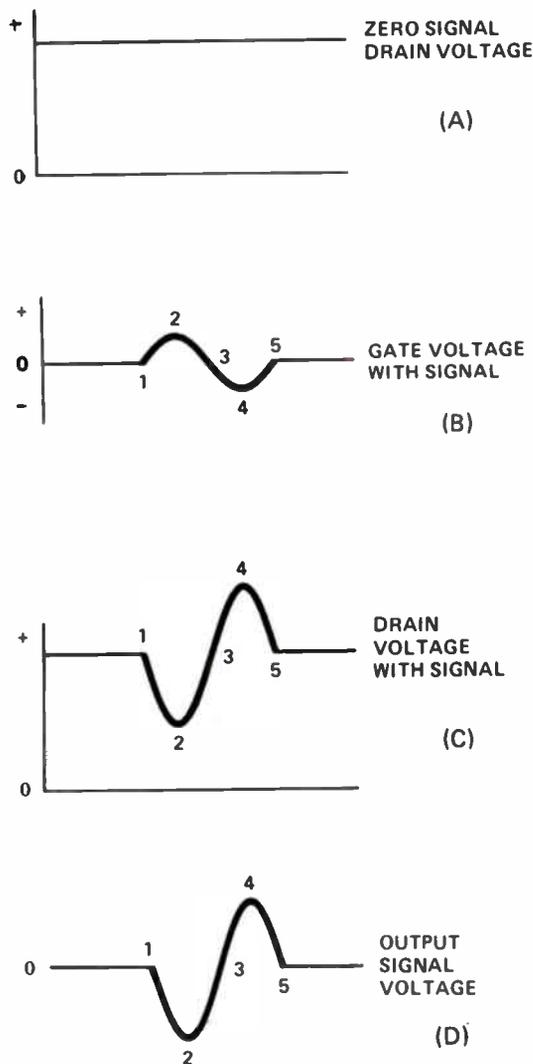
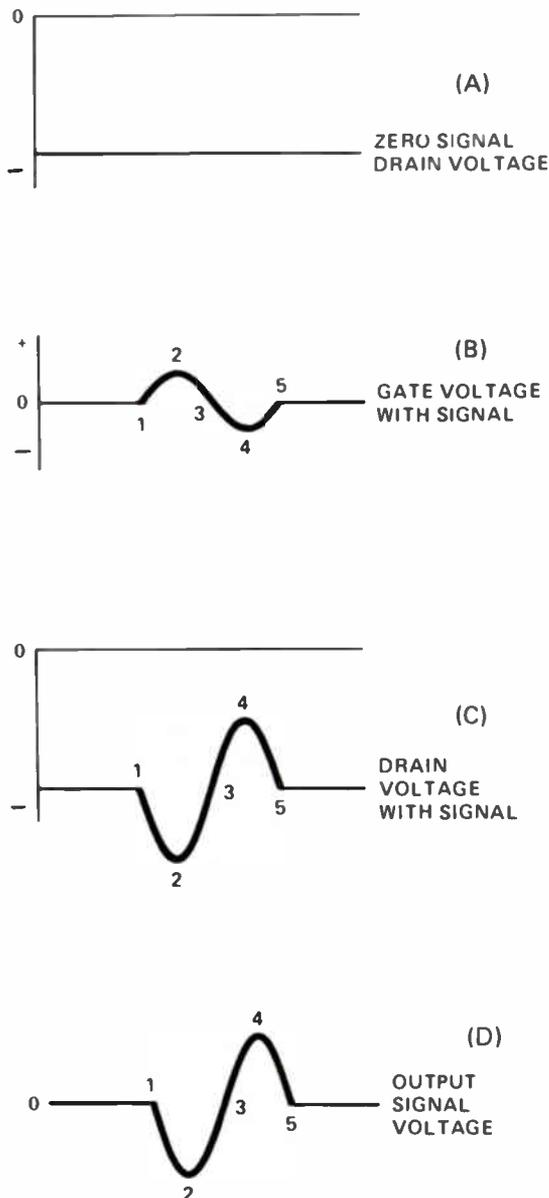

Figure 22. Waveform for the circuit in Fig.21.
Figure 24. Waveforms for circuit shown in Fig 23.
The waveforms in Fig.22 show how the circuit works. With zero input signal the drain voltage is constant, as shown in Fig.22(A). Figure 22(B) shows what happens when a signal is applied to the gate. With zero signal, the gate voltage is
Figure 22(C) shows what happens to the voltage between the drain and ground. When the gate voltage swings in a positive direction it reduces the negative bias between the gate and channel, permitting the channel to widen. This widening reduces the resistance of the channel. Current through the JFET increases so the voltage drop across R3 increases. When this happens, the net voltage between the drain of the JFET and ground decreases as shown from point 1 to point 2 and then back to point 3.
During the next half-cycle, when the input signal swings negative, it increases the net negative bias between the gate and the channel. This causes the channel width to decrease, effectively increasing the resistance of the channel. As a result, the current through the JFET decreases, causing the voltage drop across R3 to decrease. When this happens, the voltage between the drain and ground swings positive, as shown between points 3, 4, and 5 in Fig.22(C).
Any amplified signal appearing at the output on the drain of the JFET takes the form of an amplified ac signal superimposed on the dc drain voltage. At the output, on the other side of the blocking capacitor C3, we have the waveform shown in Fig.22(D). Here the dc is blocked so that the signal appears as an amplified signal.
The waveforms in Fig.24, on the next page, show what happens when the signal is applied to the input. With zero signal, the voltage between the drain and ground is constant and negative, as shown in Fig.24(A). Figure 24(B) shows that the gate voltage is constant and zero until a signal is applied to the input. When the input signal swings in a positive direction from point 1 to point 2 and then back to zero voltage at point 3, it increases the positive voltage on the gate. The increased voltage adds to the voltage across R1, making the gate more positive. This repels the holes into a narrower channel so the resistance of the channel in the JFET increases. This reduces the number of holes traveling from the source to the drain so the number of electrons leaving the negative terminal of the battery and flowing through R3 to fill the holes arriving at the drain decreases. When this happens, the voltage drop across R3 decreases so the voltage between the drain and ground increases. In other words, the drain becomes more negative. This is shown in Fig.24(C) as the drain voltage swings from zero signal voltage at point 1 to a more negative level at point 2, and then back to zero at point 3.
through the channel from the source to the drain. The increase in the number of holes arriving at the drain results in an increase in the number of electrons leaving the negative terminal of the battery and flowing through R3 to fill the holes that reach the drain. The increased current through R3 results in a greater voltage drop across R3. The drain voltage becomes less negative as the drain voltage swings from point 3 to a minimum at point 4 and then back again to zero signal level at point 5, as shown in Fig.24(C).
Figure 24(D) shows the output signal once the dc voltage at the drain has been removed by the blocking capacitor C3. Compare this with Fig.22(D) and you see that the two are identical. In the p-channel JFET we have a voltage gain because the output signal is greater than the input signal. We also see that the output signal voltage is  $180^\circ$  out of phase with the input signal voltage.